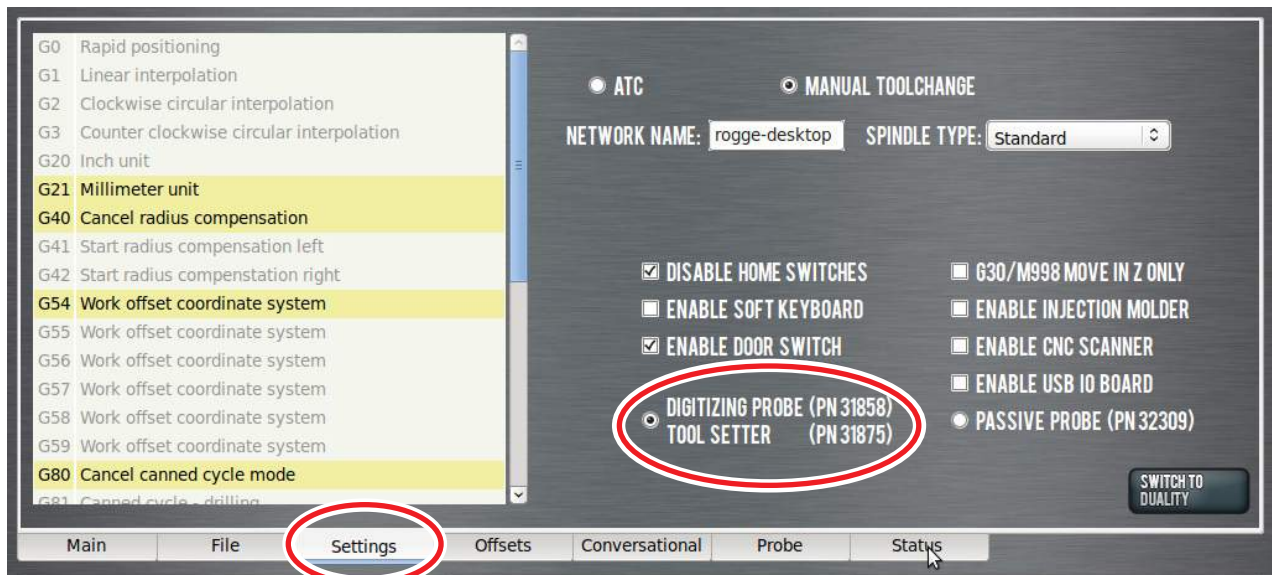

Figure 8.20
1. Click on the *Settings* tab (see **Figure 8.20**).